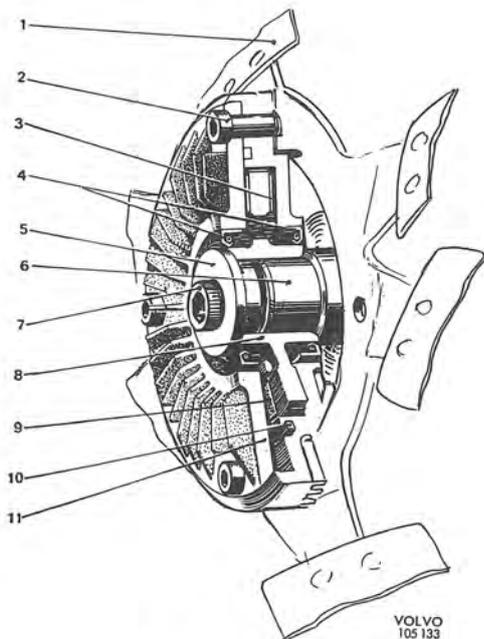

Fig. 2-92. Fan coupling
The engine is water-cooled and the cooling system is of the sealed type, see Fig. 2-91. A fan cover mounted on the radiator improves the cooling function of the fan. The fan is speed-regulated, a so-called slip-coupling type (see Fig. 2-92), the function of which is to ensure that the fan blades do not exceed a certain speed even if the engine speed is exceeded. See Fig. 2-98. The five fan blades are mounted asymmetrically to keep down the noise level. The fan coupling consists of the casing (11, Fig. 2-92) in which the fan blades (1) are secured with the bolt (2). The casing (11) has two halves which, however, cannot be separated for repairs, the fan coupling then being replaced complete. The hub (8) has a light fit on the water pump flange (6) and is locked by means of the center bolt (7). The hub is provided with a slip disc of friction material (9) surrounded by oil. During idling and at low speeds, the slipping is insignificant, so that the fan provides an air current for satisfactory cooling. When the ingoing speed (that of the water pump) exceeds about 3500 r.p.m., the slipping